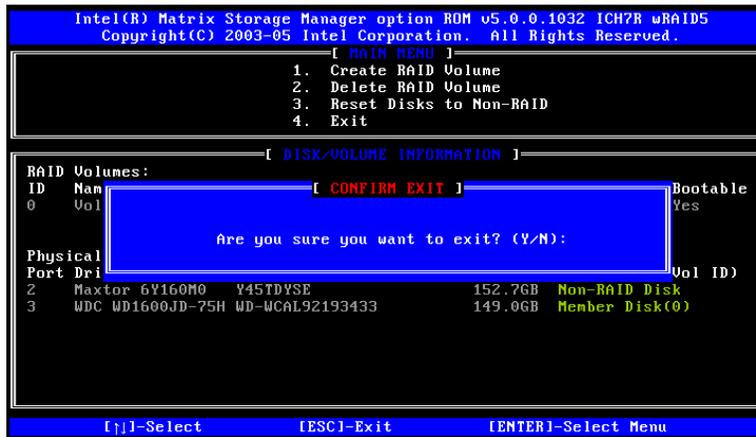

Figure F-17: Exit Verification
Step 2: Exit Verification. Press Y to exit the Matrix Storage Manager, or N to return to the Main menu. See Figure F-17.